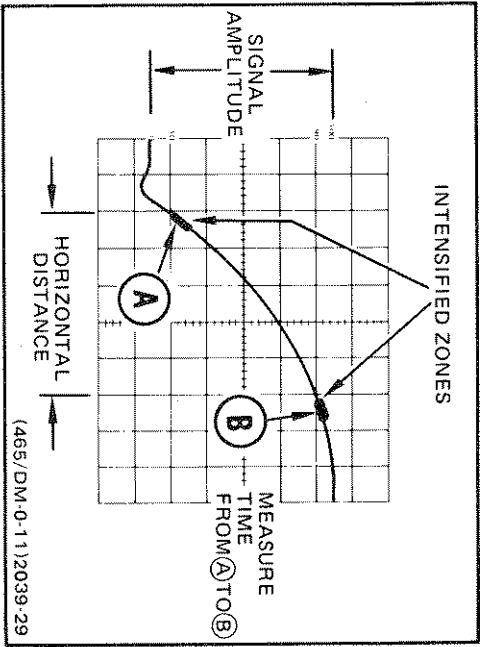

Figure 25. Rise time, differential time method.
4. Vertically position the trace so that the zero reference of the waveform touches the 0% graticule line and the top of the waveform touches the 100% graticule line (see Figure 25).
8. Adjust the B DELAY TIME POSITION control to move the start of the intensified zone (left-hand edge) until it just touches the intersection of the signal and the 10% graticule line (see Figure 25, Point A).
10. Adjust the B DELAY TIME POSITION control to move the start of the intensified zone until it just touches the intersection of the signal and the 90% graticule line (see Figure 25, Point B).